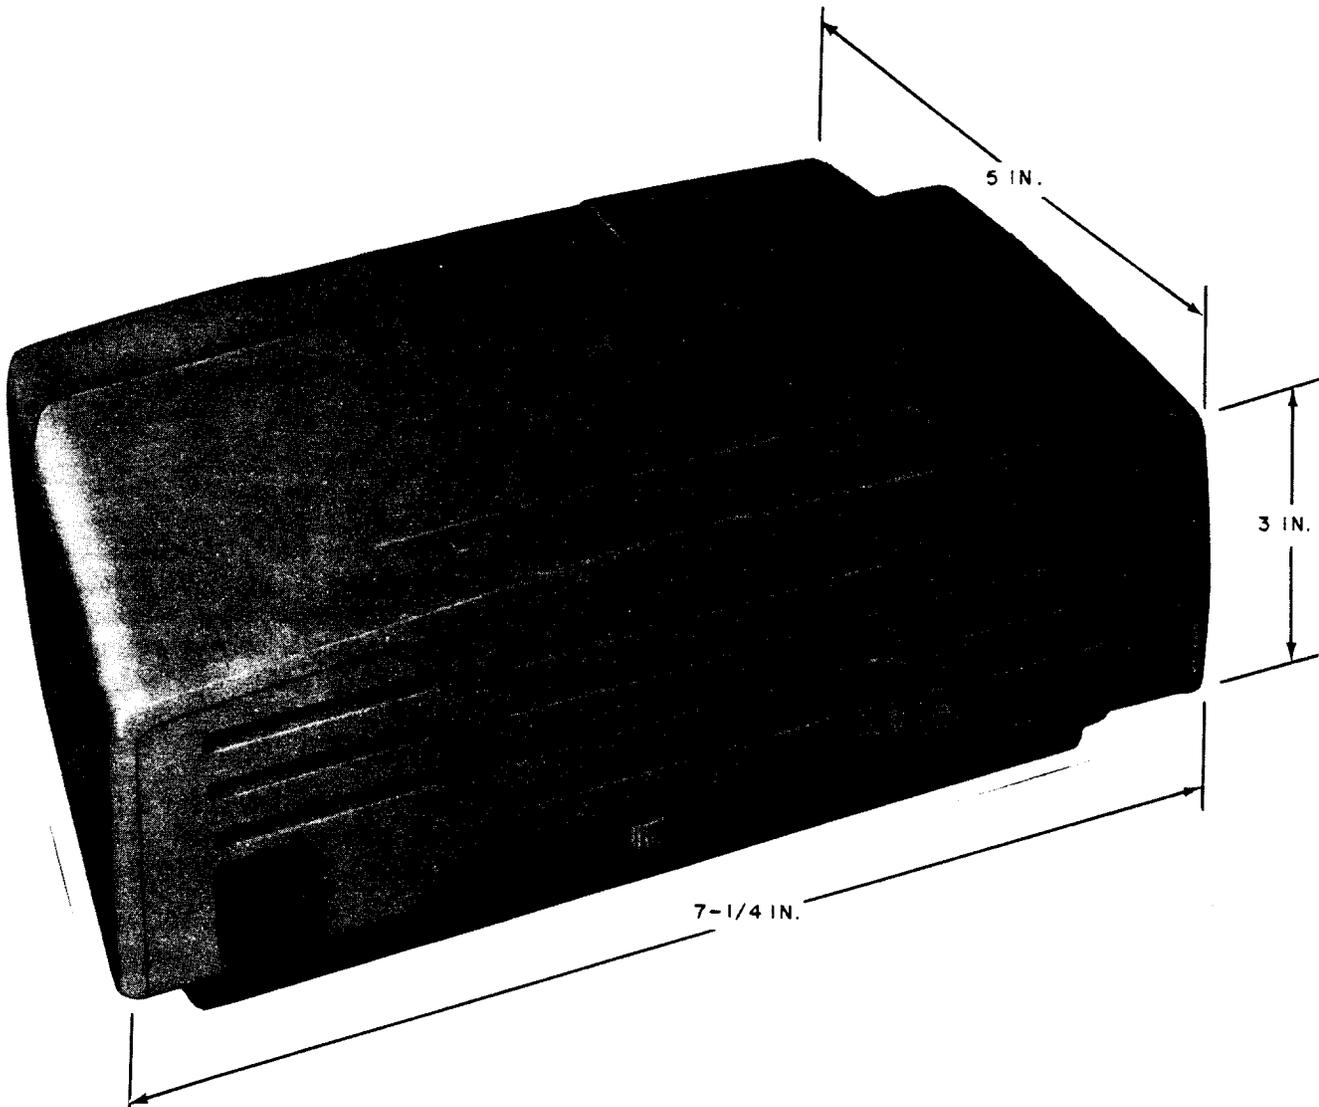

Fig. 1—S1AM Tone Ringer
2.01 **Purpose:** The S1A and S1AM tone ringers (Fig. 1 and 2) are extension ringers for people with impaired hearing.